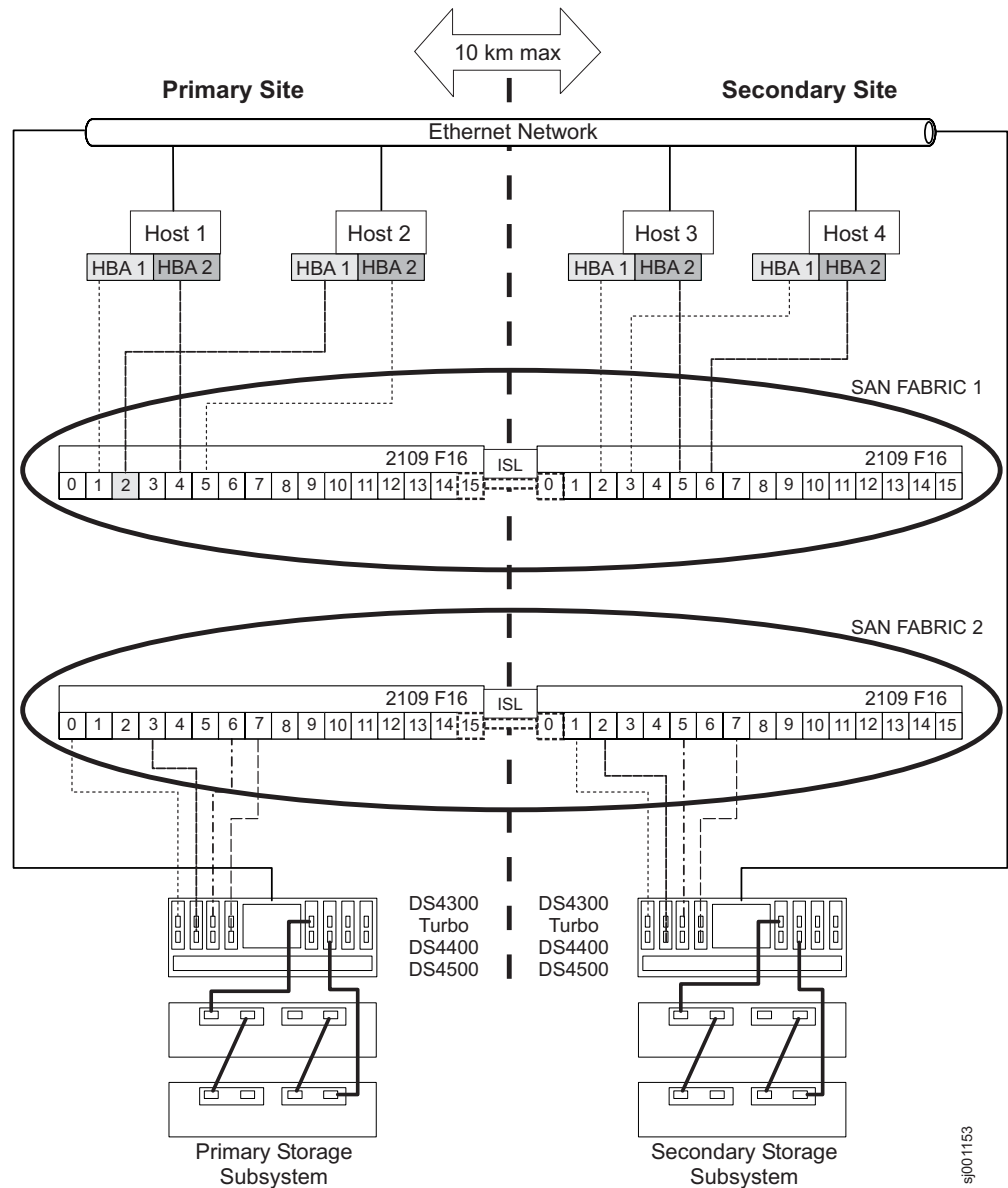

Figure 41. Highest Availability Campus configuration
Figure 41 on page 119 shows the Highest Availability Campus configuration after installation is complete.
Important: The Fibre Channel switches in Figure 41 on page 119 contain 16 ports each, which leaves many unused ports per switch. If you are performing switch zoning using the Fibre Channel host port number, instead of the WWNN of the SAN fabric logged-in ports, do not include Fibre Channel switch ports with no Fibre Channel connections in the zone definition. If you include these unused ports in your zones, unauthorized access to the SAN might result.
Figure 41 on page 119 shows how the four Fibre Channel switches are cabled for this Highest Availability Campus configuration. The zones are configured on the switch to allow one port per zone for a storage subsystem connection, and one HBA port per zone for each host. There are four zones in the following configuration example.
- Refer to Figure 41 on page 119 as you complete the steps in this procedure.